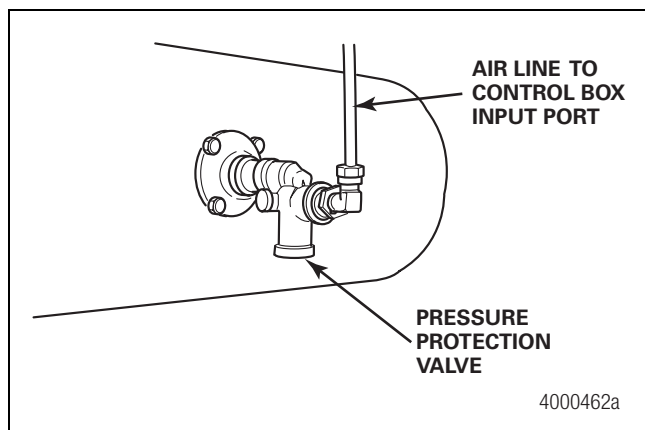
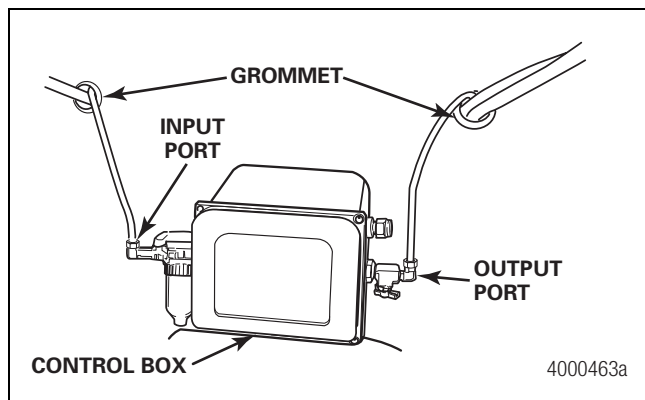

Figure 2.58
Figure 2.59
1. Route an air line from the PPV to the control box input port. Figure 2.58 and Figure 2.59. Hand-tighten the air line compression fittings, then use a 9/16-inch wrench to tighten them approximately one additional turn to obtain an airtight seal.